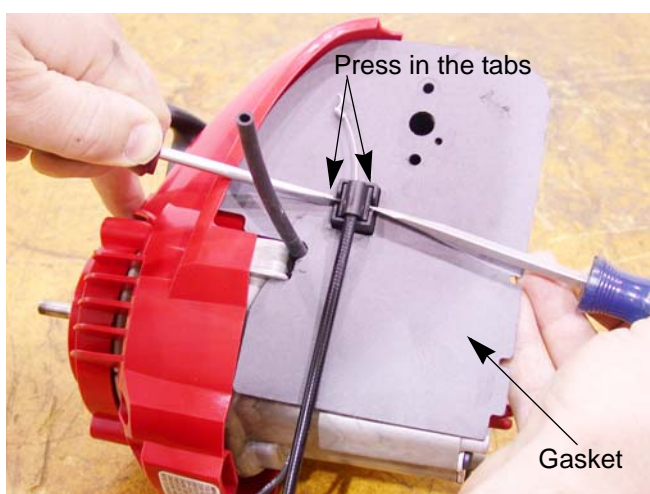

Figure 8.6
11. Remove the throttle cable by pressing in the tabs located in the slots while lifting the cable out. See Figure 8.6.